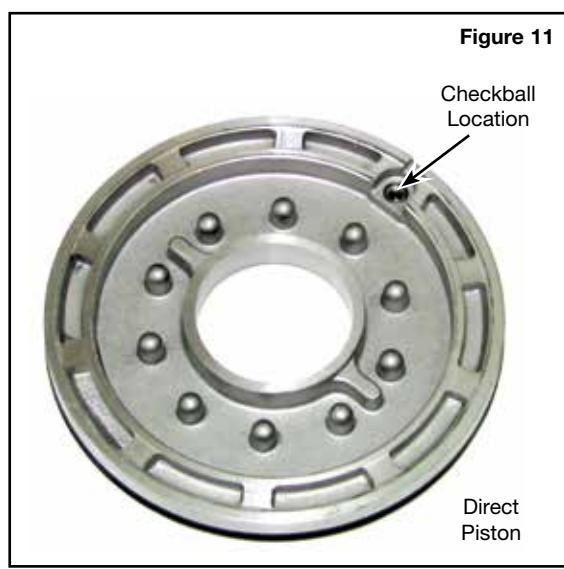

Figure 11
b. Inspect checkball in direct piston (**Figure 11**), as it is prone to sticking. Clean and flush with solvent or WD-40® and reseat with a small punch and hammer.